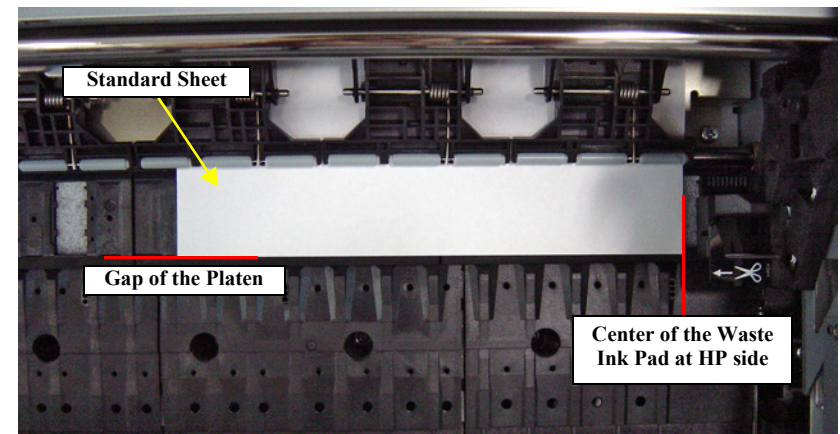

Figure 5-59. Position of the Standard Sheet
5. Insert the Standard Sheet to the position shown in Figure 5-59 and press [Paper Set] to lock the paper presser.